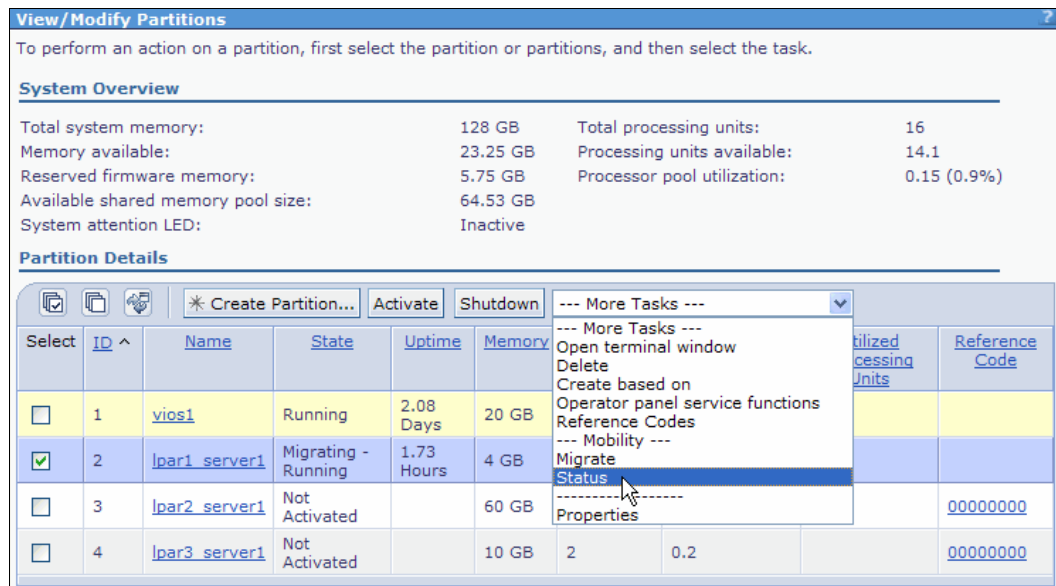

Figure 4-81 View/Modify Partitions panel: select Status for the LPAR in the migration process
- While the task is running, it is possible to see the migration status. **Select** the LPAR which is migrating on the **View/Modify Partitions** window. Then, click the **More Tasks** drop-down menu and select **Status**, as shown in Figure 4-81.